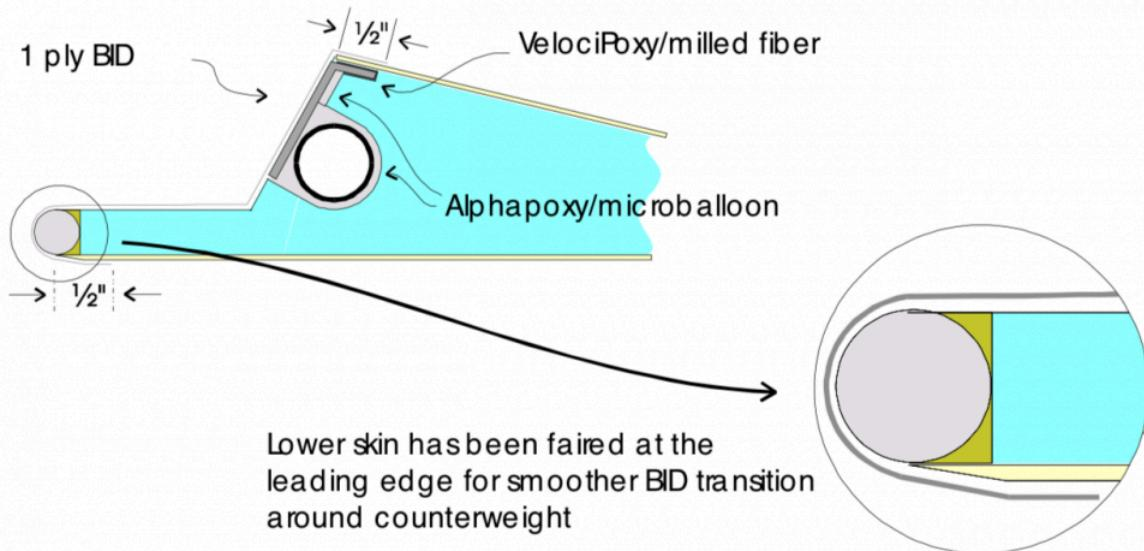

Figure 2-43. Aileron Counterweight Detail Cross Section
- ____ Taper the lower skin **leading edge** into the counterweight, as shown in the inset in Figure 2-43. This will make for a smoother transition when you apply the lay-up to the forward face of the aileron.
- ____ Slurry the exposed foam with **EZ-Poxy Micro-Balloon**, then apply 1 ply of **BID** extending the length of the aileron. It should be cut at the usual 45 degree bias. Apply the cloth as shown in Figure 2-43, overlapping the top skin **leading edge** by 1/2", forward around the counterweight, and on to the bottom skin by 1/2".